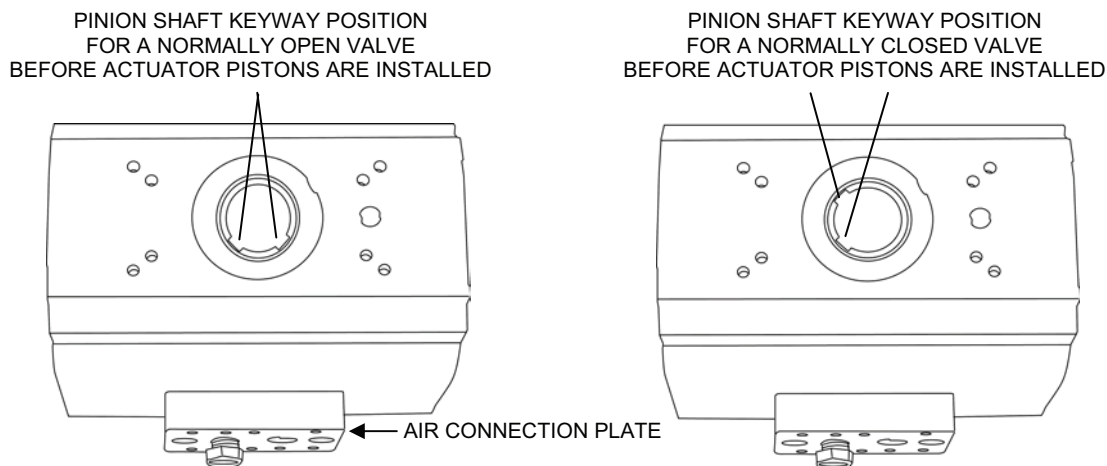

Figure 21. Position of Actuator Pinion Shaft Keyways Prior to Installing Pistons.
- 3) If the actuator is for use on a normally open valve (V-111, V-112, V-201, or V-202) insert a suitable tool (such as the nose of a needle nose pliers) into the shaft adapter and turn the pinion shaft so that both pinion shaft keyways are at a 45° angle to the air connection plate (see Figure 21).
- 4) If the actuator is for use on a normally closed valve (V-113, V-401, or V-402) insert a suitable tool (such as the nose of a needle nose pliers) into the shaft adapter and turn the pinion shaft so that both pinion shaft keyways are at a 45° angle to the left end of the actuator body (see Figure 21).